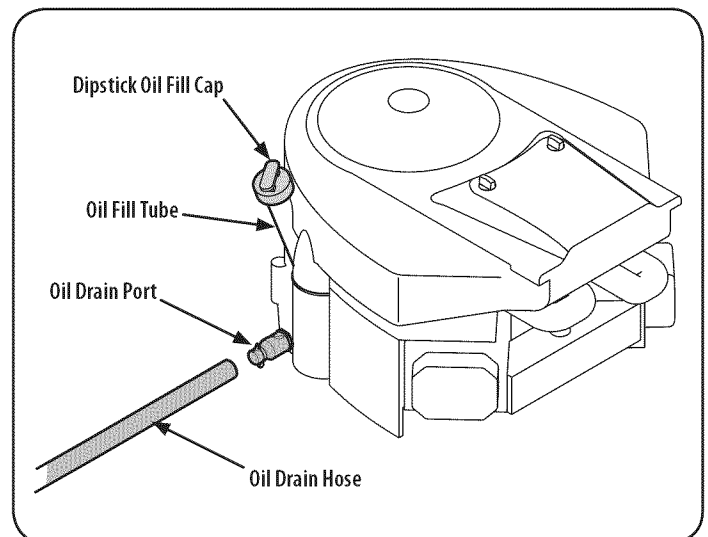

Figure 21
2. Pop open the protective cap on the end of the oil drain valve to expose the drain port. Refer to Figure 21. Remove the oil fill cap/dipstick from the oil fill tube.